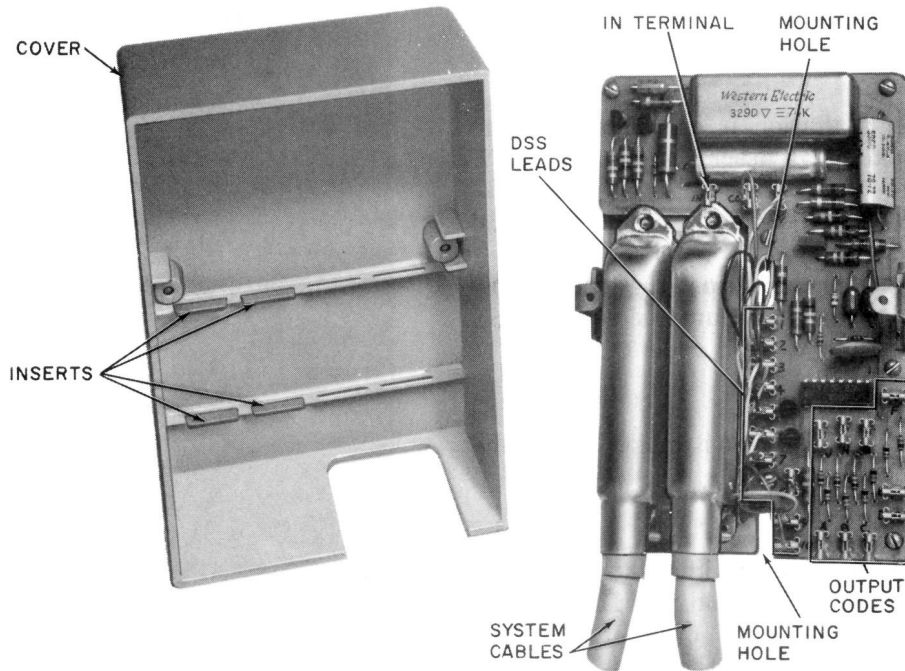

Fig. 32—26A Apparatus Unit
3.46 Install a separate 26A apparatus unit (Fig. 32) for each preset signaling group.